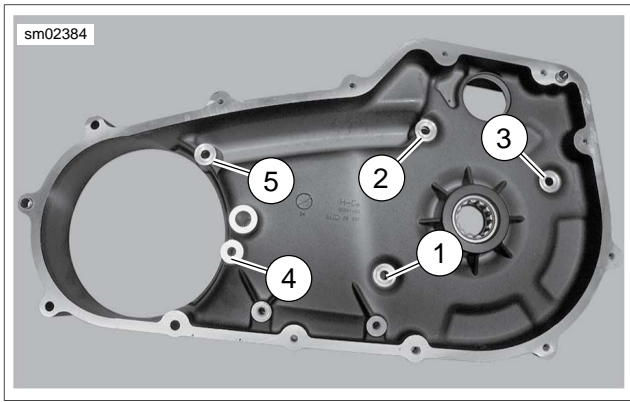

Figure 6-29. Sealing Fastener Torque Sequence
5. See Figure 6-29. Tighten fasteners in sequence shown to 25-27 ft-lbs (33.9-36.6 Nm).